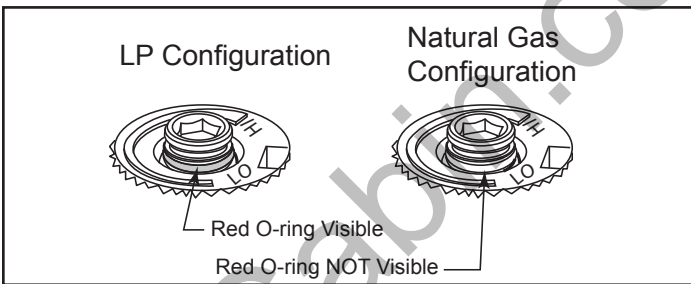

Figure 7
8. Verify that if the conversion is from NG to LP, the screw must be reassembled with the red o-ring visible. (Figure 7)